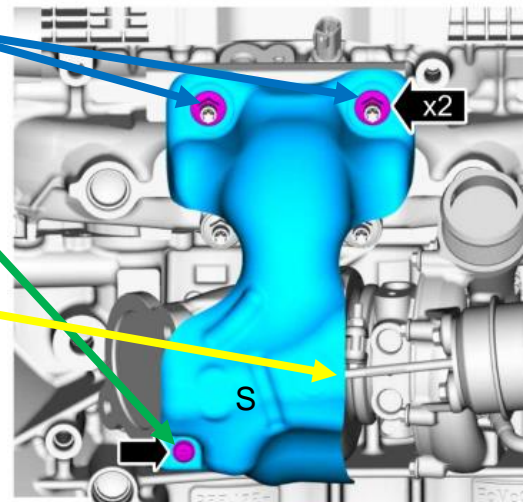

Fig. 22
- Slip heat shield back into position. See Fig. 22
- Tighten lower heatshield bolt. See Fig. 22 (use 8mm socket or T35 Torx bit) *Torque to 89 lb.in (10 Nm)*